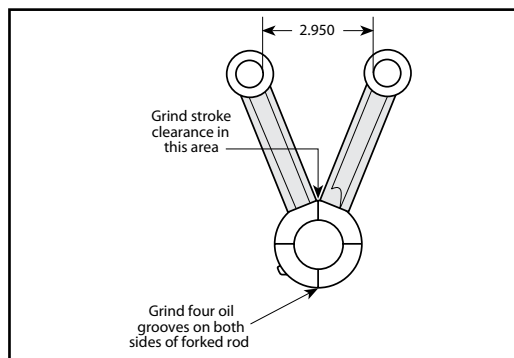

Figure 1
- A. To insure adequate oil on sides of rods and matching thrust surfaces of flywheels, S&S recommends that four grooves be ground on each side of both front and rear connecting rods. **See Figure 1, below.** Make these grooves .020" to .030" deep and .030" to .040" wide and should be ground 90° from each other. After making grooves, remove all sharp edges and burrs with emery cloth.
- B. With rods assembled, measure distance between rods at closest points in wristpin holes. If measurement exceeds 2.950" as shown in **Figure 1**, grind female rod at points where male rod makes contact to achieve sufficient clearance.